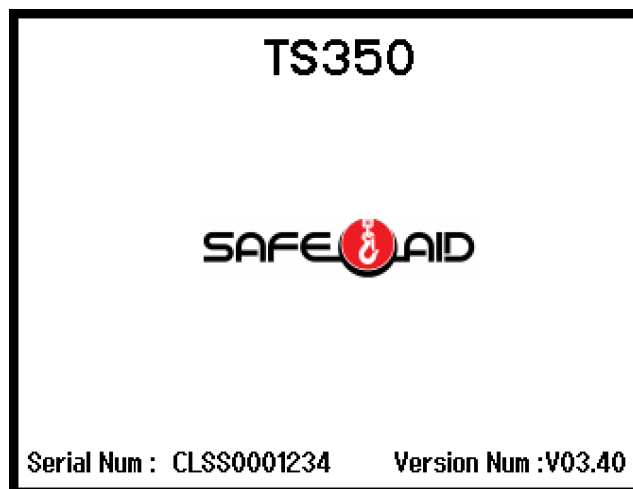

Figure 18
**TOUCH SCREEN CALIBRATION – FIGURES 18, 19 & 20**
Switch the TS350 system power off then power up the TS350 and wait for the splash screen (Figure 18) to appear.